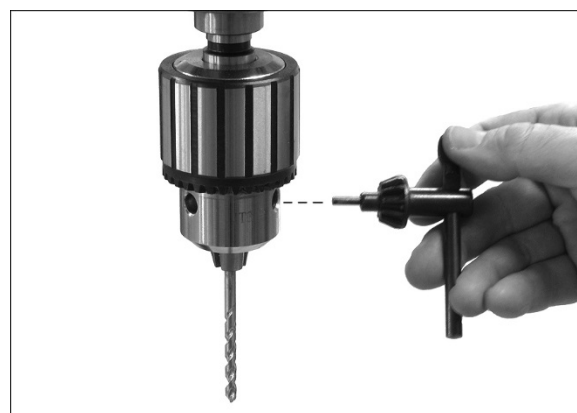

Figure 18
3. Turn chuck key clockwise to tighten chuck jaws. See Figure 18. **NOTE:** Insert chuck key into each of the three holes in the chuck and tighten to ensure tightness of each jaw.